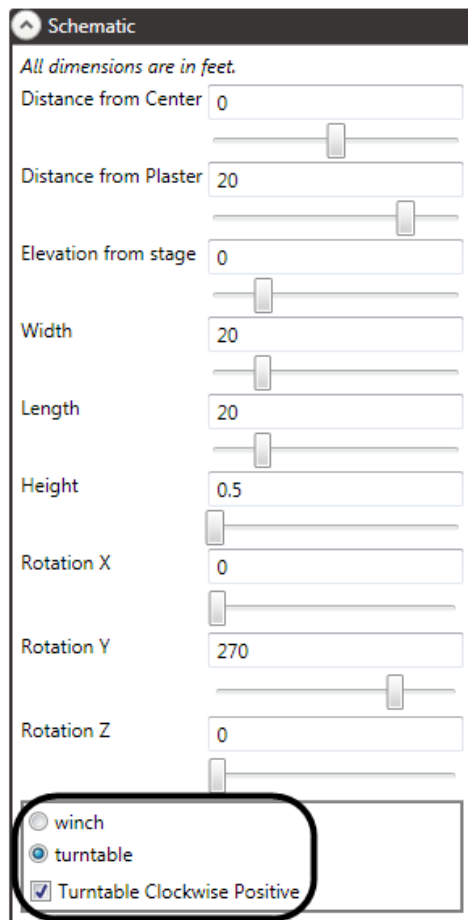

Figure 203
2. Scroll to the **Schematic** section of the **Motor Editing Pane** and select **Turntable** at the bottom of the screen (Figure 203).